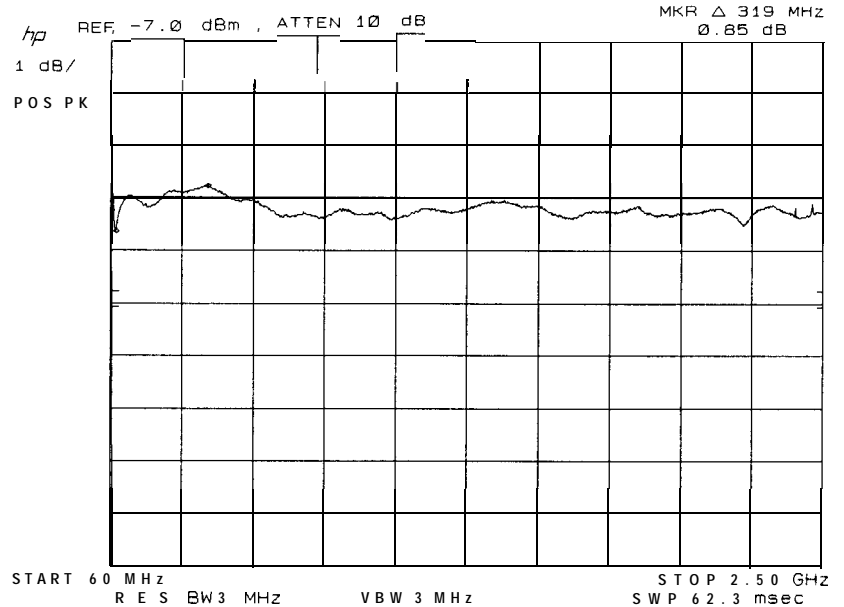

Figure 2-20.
47. On the synthesized sweeper, press **SWEEP** **SINGLE** and wait for a sweep to complete (150 seconds) and the **SWEEP LED** to turn off. As the synthesized sweeper tunes from 60 MHz to 2.5 GHz, the spectrum analyzer frequency response is displayed as TRACE B (TRACE A displays the current input signal). When the sweep has completed, the display should appear as shown in Figure 2-20.